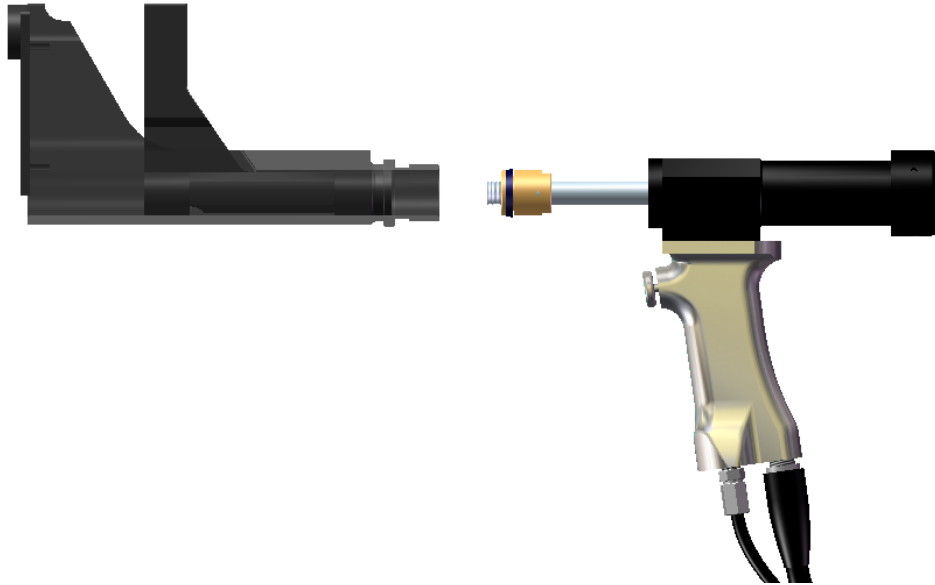

Figure 4-5
8. Screw LBOA onto Little Brute Puller Unit (Figure 4-5). Connect piston first then connect housing. Tighten locking.
(Guard not shown in Figure 4-5 for clarity)